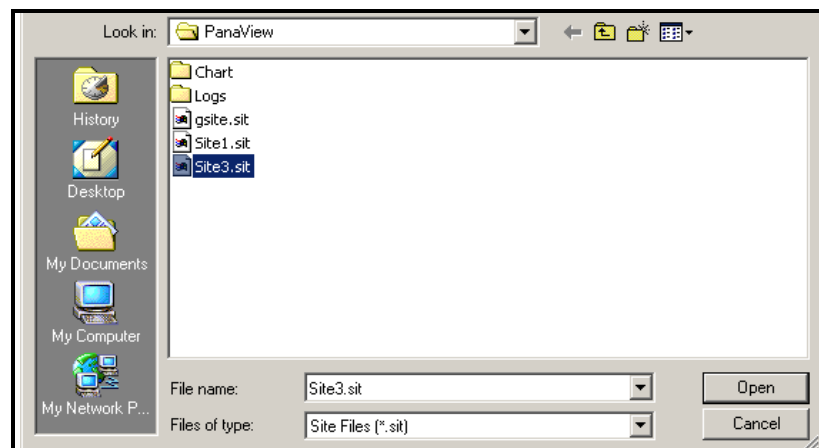

Figure F-15: Site File Selection
2. Then click on the *Save Site to Meter* button. A screen opens similar to Figure F-15 below.
3. The *Site File Selection* window (Figure F-15 on page F-12) opens. Highlight a site with the desired settings, and click [Open]. *PanaView™* saves the site in the meter with the new name and the desired settings.
3. The *Site File Selection* window opens (Figure F-15 on page F-12). Enter the desired site name (now with a .prt suffix) and click [Save]. *PanaView™* displays a text version of the site, as shown in Figure F-17 below.